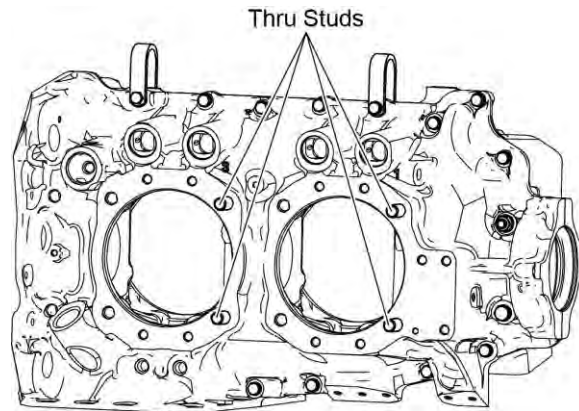

Figure 3
- C. Use a slide hammer, a Crankcase Thru-Stud Puller ST-271 or Crankcase Thru Stud Driver ST-317 or a plastic hammer to remove the four thru-studs from the crankcase (Figure 3).